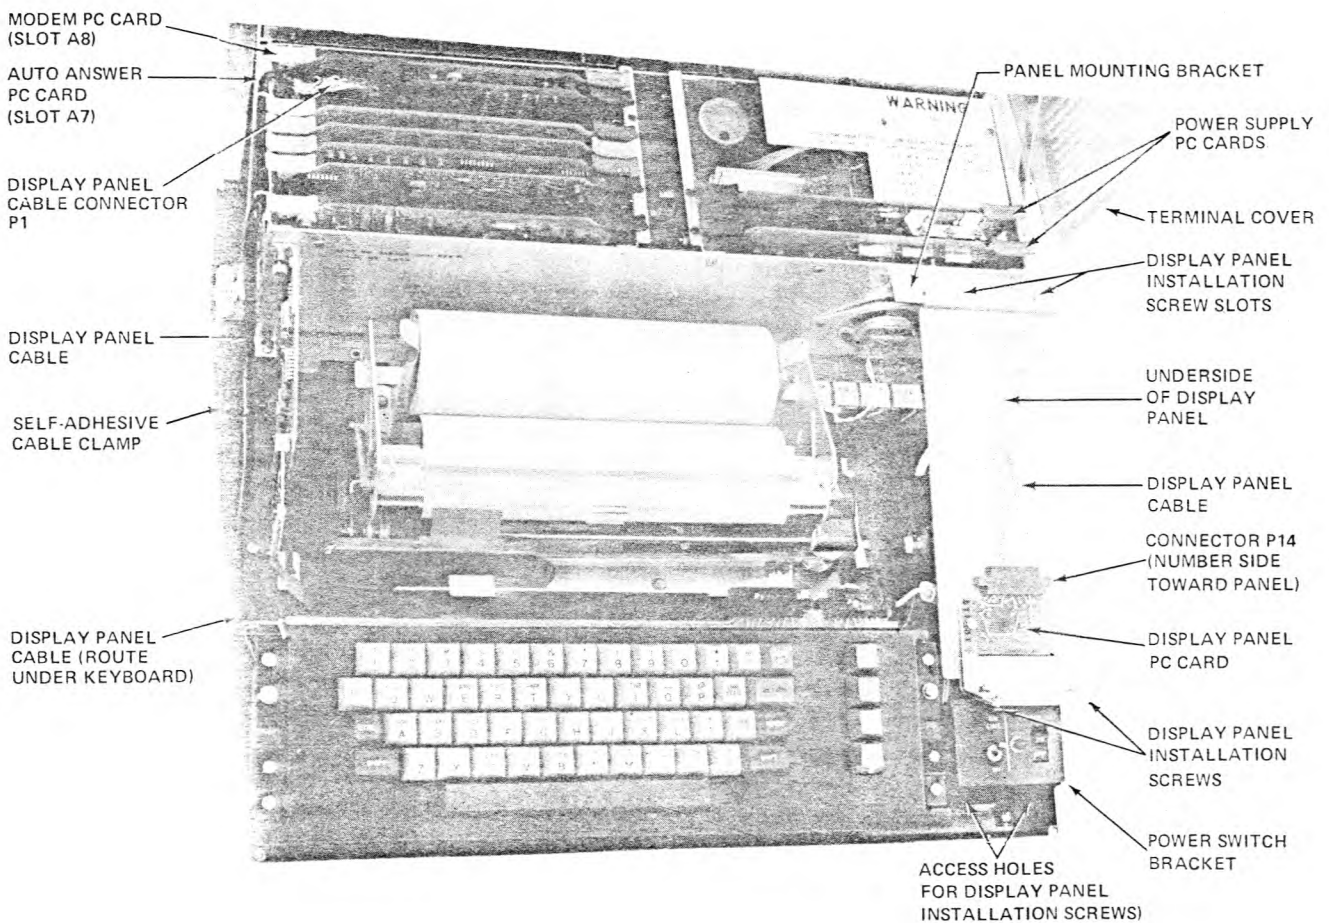
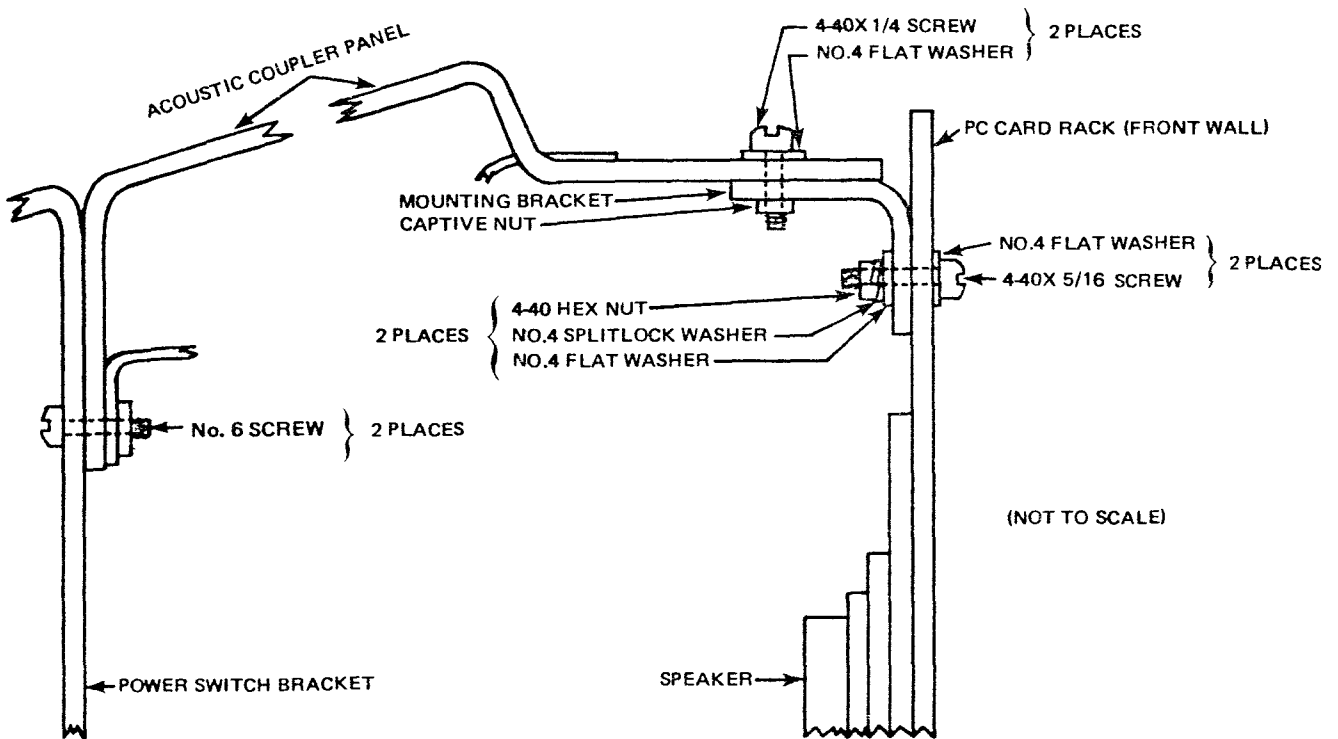

FIGURE 2-7.4. AUTO ANSWER CONTROL OPTION INSTALLATION COMPONENTS
FIGURE 2-7.5. ACOUSTIC COUPLER PANEL INSTALLATION DETAILS
- d. Install the display panel as follows. Refer to Figure 2-7.4 for location of components.
- (1) Remove the two Power Supply PC cards from PC card slots A9 and A10 (brown and red ejectors).
- (2) On the underside of the terminal cover, use diagonal cutters to cut the four pins which hold the blank option panel in place. Cut close to the metal push-on fasteners and pry off the fasteners with a screwdriver. Then cut the four plastic pins again, as short as possible to prevent interference with the new panel.
- (3) Attach the panel mounting bracket to the PC card rack front wall, using two 4-40 x 3/16 screws, two No. 4 splitlock washers, and two 4-40 hex nuts. Insert the screws from inside the PC card rack. See Figure 2-7.5 for installation details.
- (4) Attach the display panel cable (971556) connector P14 to the PC card on the underside of the panel as shown in Figure 2-7.4. The connector number should face the underside of the panel.
- (5) Loosely insert two 6-32 x 5/16 screws into the front lower part of the display panel. Place a drop of Loctite on the threads.
- (6) Locate the display panel so that the two 6-32 screw heads insert into the keyhole slots in the back of the POWER switch box. Press down on the panel to seat the screws into the narrow part of the keyholes.
- (7) Insert a screwdriver through the holes in the front of the POWER switch box and tighten both 6-32 screws.
- (8) Insert and tighten two 4-40 x 1/4 screws and two No. 4 flat washers through the slots at the rear of the display panel and into the panel bracket as shown in Figure 2-7.5.
- (9) Replace the two Power Supply PC cards removed in step (1) above. Be sure the colored PC card ejectors match the color dots on the PC card rack.
- (10) Route the display panel cable (971556) behind and below the keyboard and along the left bottom of the data terminal base as shown in Figure 2-7.4. Secure the self-adhesive clamps to the bottom of the data terminal case.
- (11) Plug connector P1 onto the top of the Auto Answer PC card (card slot A7, purple ejector) installed in step b. above.
- (1) Place thumbs under the PC card ejectors and lift upward to dislodge the PC card.
- (2) Lift the PC cards up and out of their PC card rack slots.
- e. Attach the panel mounting bracket to the PC card rack front wall, using the hardware shown in Figure 2-7.5.
g. Add a drop of Loctite to the two 6-32 x 5/16 screws and start them into the captive nuts on the front part of the Acoustic Coupler panel as shown in Figure 2-7.5. Kit 969597 contains two 6-20 x 1/2 self threading screws. The Loctite is not required. Position the panel so that the loose No. 6 screws insert into the two keyhole slots at the rear of the POWER switch box.
- (1) Press down on the front of the Acoustic Coupler panel so the two loose No. 6 screws seat in the narrow part of the keyhole slots in the POWER switch box.
- (2) Insert two 4-40 x 5/16 screws and two No. 4 flat washers through the two slots in the upper part of the Acoustic Coupler panel and into the mounting bracket captive nut as shown in Figure 2-7.5. Tighten the screws.